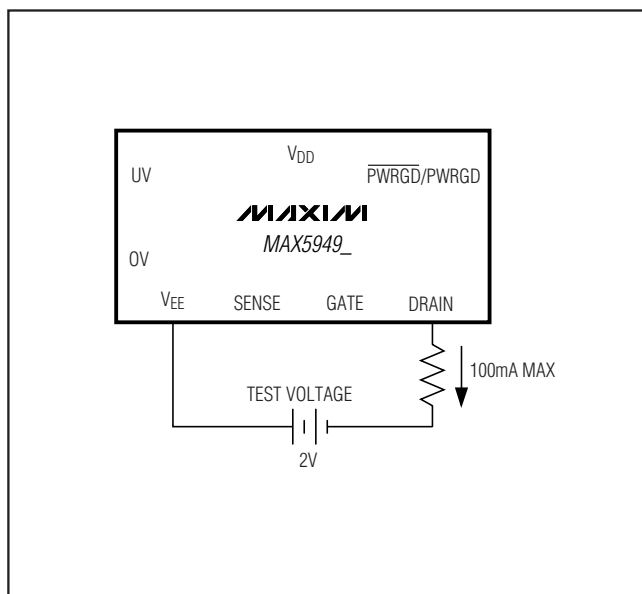

Figure 1. -2V DRAIN Voltage Test Circuit
**Note 1:** Test condition per Figure 1. DRAIN current must be limited to the specified 100mA maximum.